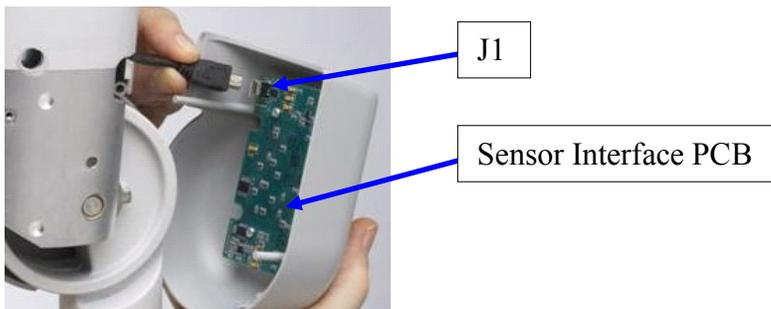

Figure 28
4. Plug the USB cable into J1 of the Sensor Interface PCB arm mount as shown on Figure 28, page 20.